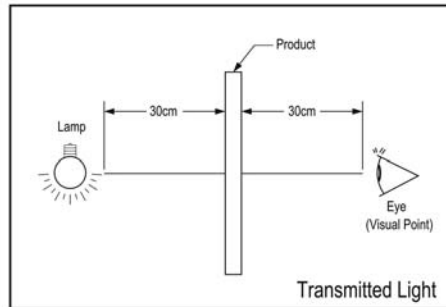
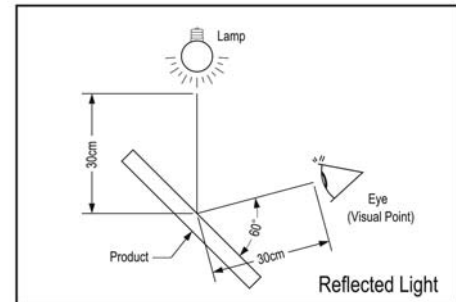

Figure 11-1
Figure 11-2
- (1) 18W(1000 ± 500 Lux) fluorescent luminant lamp is used for appearance inspection. Detail settings are shown in (Fig 11-1) and (Fig 11-2).
[(1) 檢測始用之燈光為 18W(1000 ± 500 Lux)白熾燈光，詳細的擺設方式，請參考圖(Fig11-1), (Fig11-2)]
- (2) Minor impurities outside active area are acceptable unless their existence affect electrical functions.